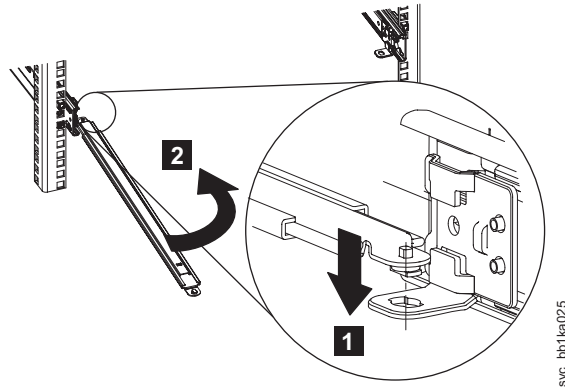

Figure 24. Rack rear: Attaching the SAN Volume Controller 2145-CF8 cable-management support arm
2. At the rear of the rack, connect one end of the support arm, as shown by **1** in Figure 24, to the same slide rail to which you plan to attach the cable-management arm so that you can swing the other end of the support arm **2** toward the rack.